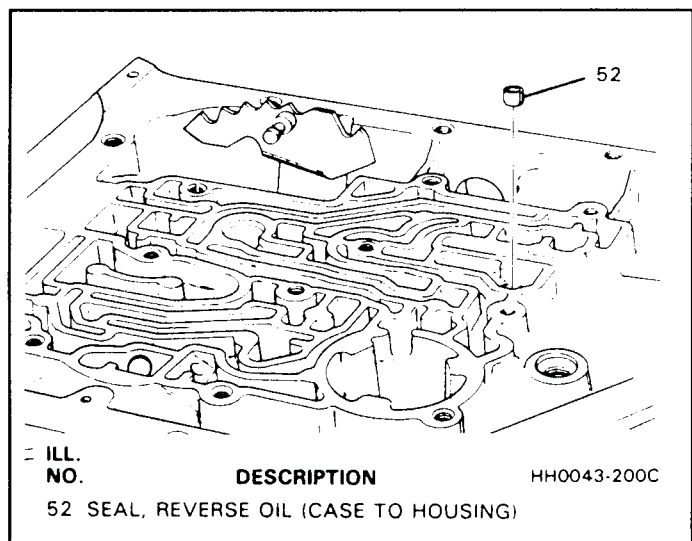

Figure 52
6. Remove the Lo/Reverse oil seal from the case using a #4 screw extractor (See Figure 52).